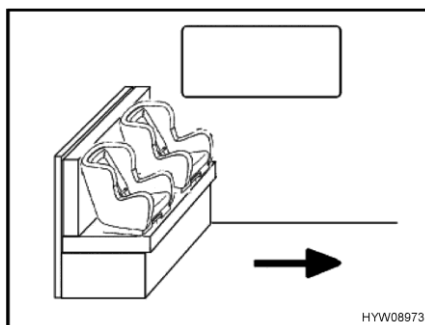
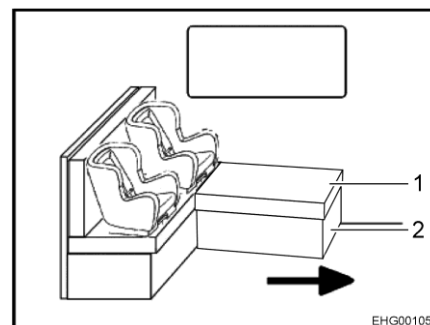

Fig. 17 Child seats on bench
Fig. 18 Child seats on L-shaped bench
The arrow in Fig. 17 and Fig. 18 shows the direction of travel.
- Remove the cushion (Fig. 18,1) if necessary.
- Fold the chest frame (Fig. 18,2) if necessary.